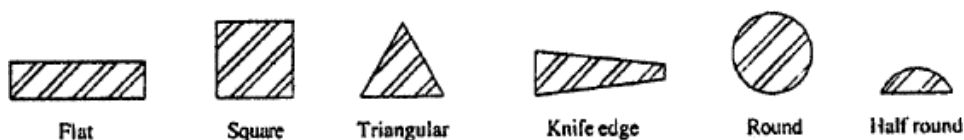

Fig. 21 Cross sectional shapes of common files
**According to the cross-sectional shape:** The standard cross-sectional shapes for files are flat square, triangular, round, and half-round as shown in fig.21. The half-round file is actually a segment of a circle in cross section. A blunt file has the same cross section size throughout its length and taper file has a cross section that gradually narrows in width and thickness for one half length and taper file has a cross section that gradually narrows in width and thickness for one-half to two thirds of its length. Some flat files have a safe edge with no teeth.